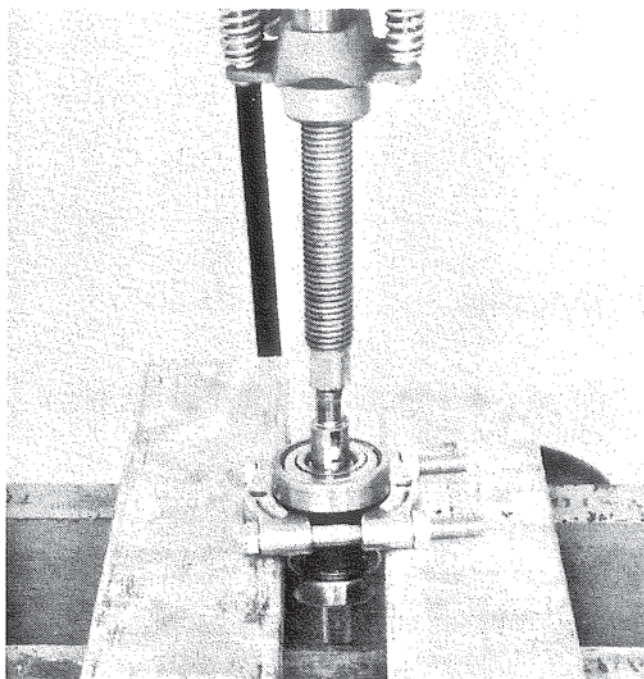

Figure 6. Removing Bearings.
7. Remove bearings from shaft using a suitable bearing puller. Figure 6.